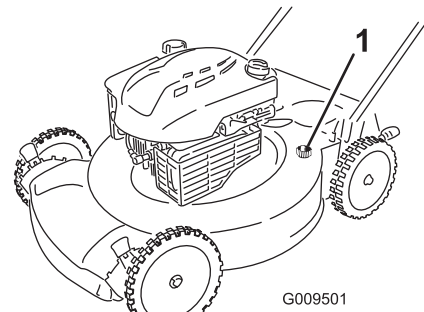

Figure 39
5. Attach a garden hose that is connected to a water supply to the washout port (Figure 39).